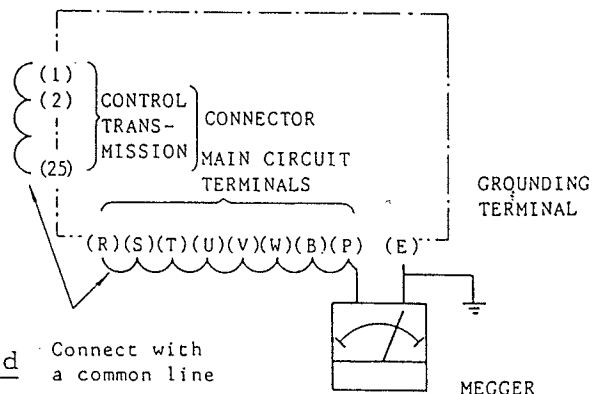

Fig. 5 Connections for Megger Test
As shown in Fig. 5, connect the VS-646HS3 AC main circuit input terminals (R) (S) (T) (U) (V) (W) (B) and (P) with a common line. Then connect the control circuit connector pins (1) to (25) (except for (9)) and the transmission connector pins (1) to (8) (except for (7)) with another common line. Perform the megger test only between the main circuit common terminals and the ground (grounding terminal (E)). Do not make withstand voltage test on any part of the VS-646HS3 except on the main circuit.